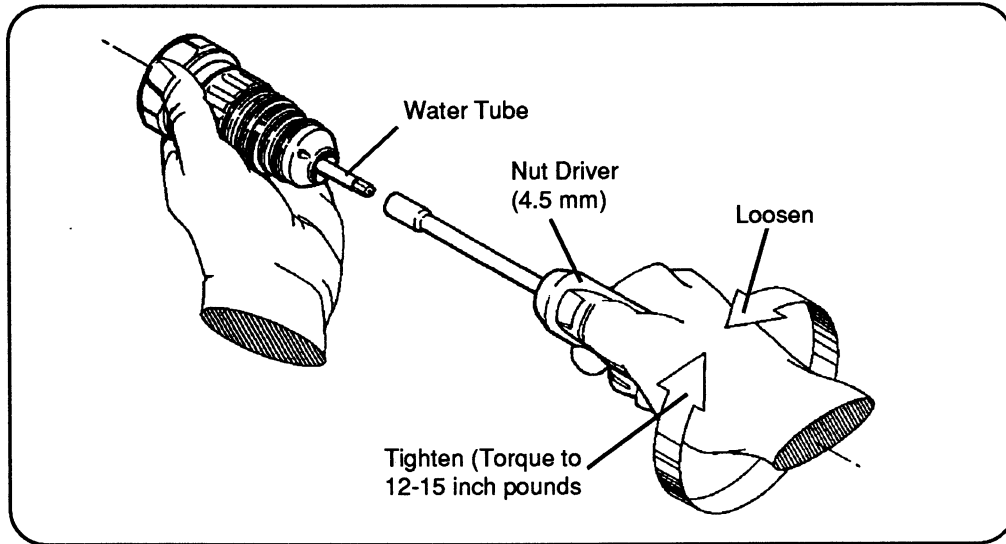

Figure 1 Loosening and Tightening Water Tube
1. Use the nut driver to remove the water tube from the torch (Fig. 1).